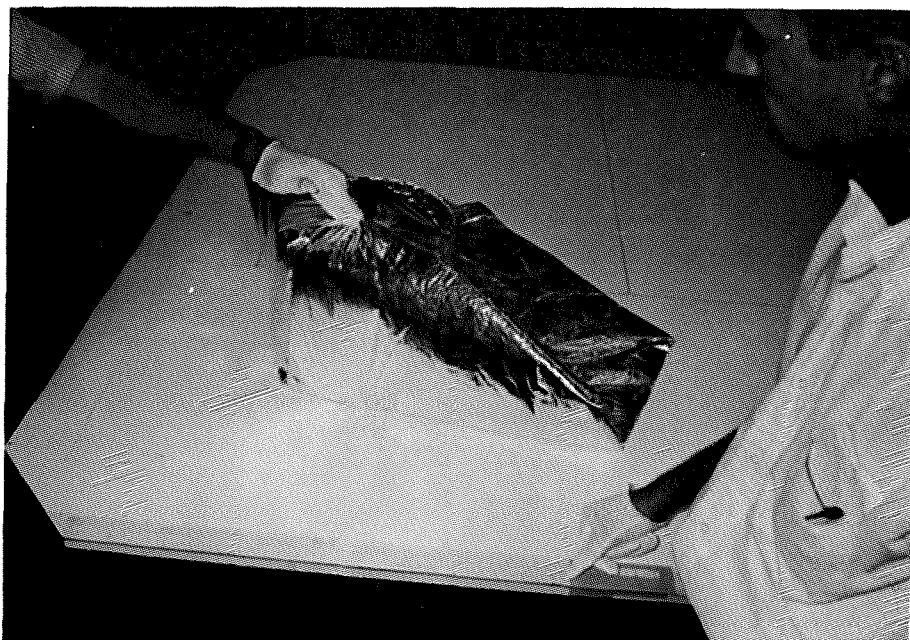

FIG. 7
**STEP 6.** Bring up an adjacent hexagon point in same manner. Form pleat in excess material and tuck in as shown in Figure 6. Fold over top and again hold. External fold line should be vertical as seen in Figure 7.